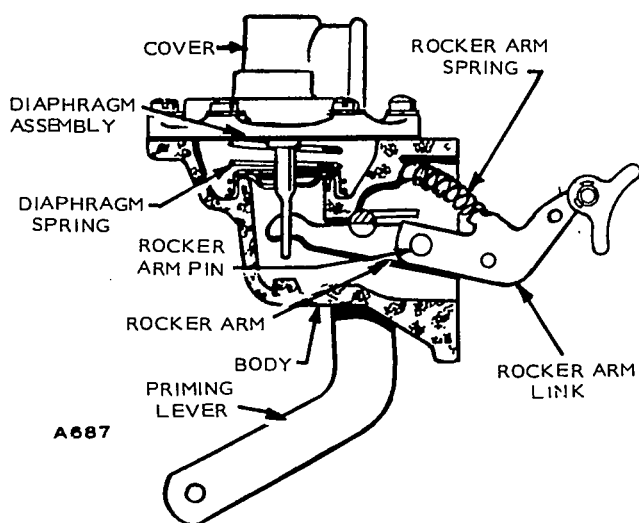

FIGURE 10. FUEL TRANSFER PUMP
These diesel engines require a fuel supply line and a separate return line. Install the fuel supply line from tank to the 7/16-24 NPTF inlet in the fuel pump. Connect fuel return line to fitting at injection pump. See Figure 10. Use approved flexible fuel lines at the engine to absorb vibration. Be sure there are no air leaks in the suction line.
The fuel transfer pump (Figure 10) is a diaphragm and check valve type pump operated by a cam lobe on the engine camshaft. The pump cam follower has a wide surface to prevent wear as it rides on the
2. Insert link and rocker arm into body and hook it over diaphragm pull rod. Align rocker arm with rocker arm pin hole and drive in pin. The priming lever must be in position shown in Figure 10 when installing rocker arm.